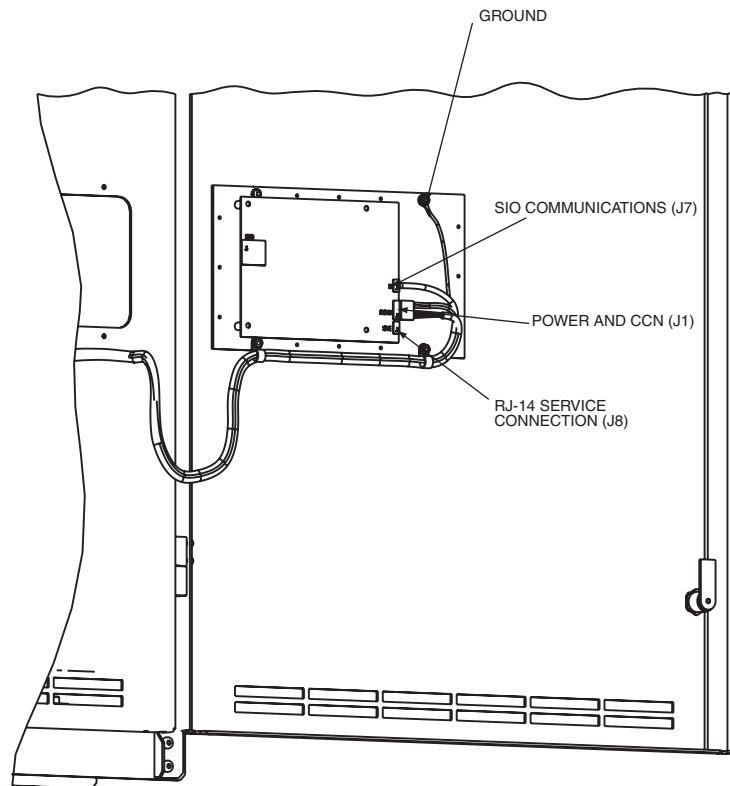

Fig. 62 — Rear of ICVC (International Chiller Visual Controller)
2. If a green LED is on continuously, check the communication wiring. If a green LED is off, check the red LED operation. If the red LED is normal, check the SIO address switches (Fig. 62 and 63). Confirm all SW1 SIO address dip switches on the CCM are in the OFF position.